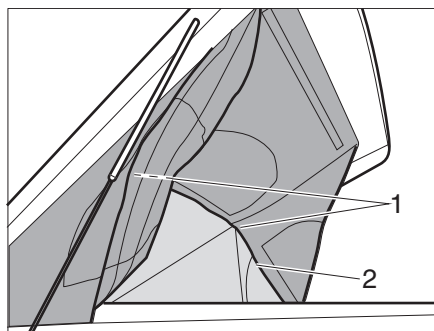

Fig. 48 Panorama function
- Open the zip (Fig. 48,2) all around at the pop-up roof.
- Fasten the side sections and front section with the Velcro fasteners (Fig. 48,1) to the top of the pop-up roof.